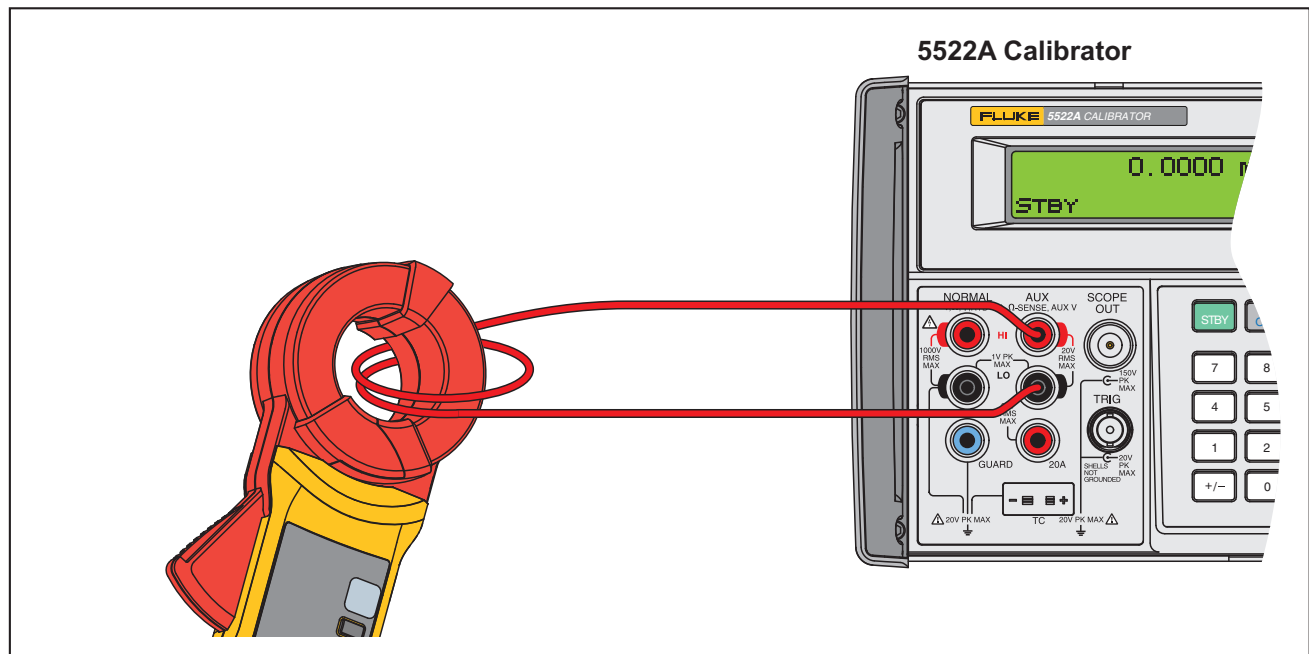

Figure 1. Calibration with 2-Turn Current Loop
- At the next calibration step, if the screen shows "mA" and "AC", apply an AC current to jaw with a 2-turn current loop. See Figure 1. The calibrator output value should be half of the value shown on the screen. For example, the calibrator output should be 0.100 mA for the calibration point shown on the screen below. The current frequency should be 60 Hz.